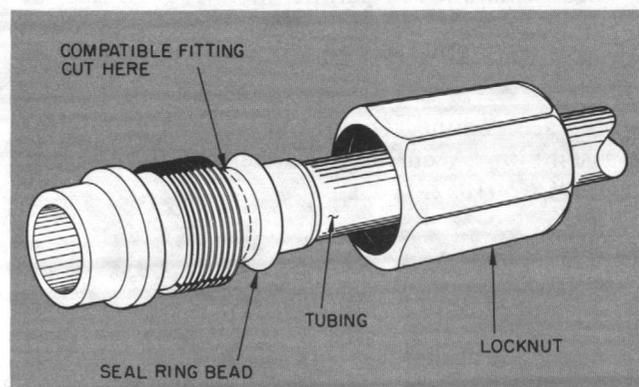

Fig. 13 — Repair of Mechanical Connection
2. Back locknut off Compatible Fitting onto tube at indoor coil as in Fig. 13.